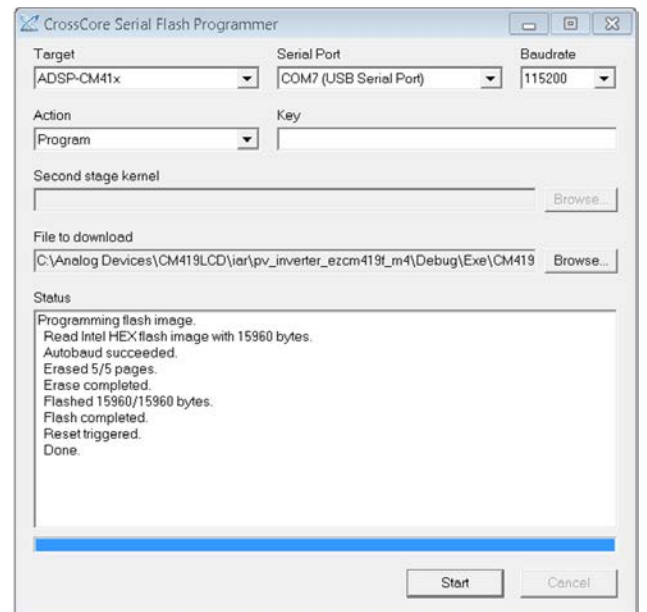

Figure 8. **CrossCore Serial Flash Programmer** Application to Program the Flash Memory
5. In the **CrossCore Serial Flash Programmer** window, configure the following parameters (see Figure 8):
- b. Select the COMx port (COM7 shown as an example in Figure 8) that has been assigned to the EVAL-ADSP-CM419F-EZKIT from the **Serial Port** dropdown menu.